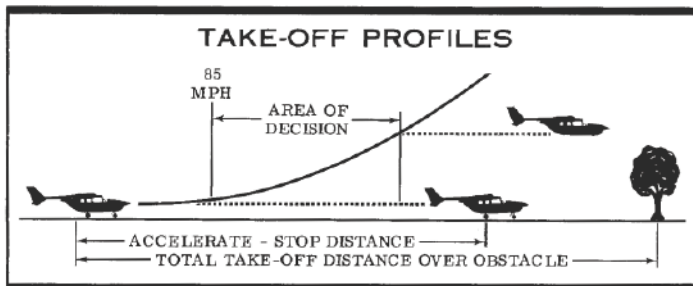

Figure 3-1.
of decision" in a few seconds. However, to assure an intelligent decision in this type of emergency, the field length, obstruction height, field elevation, air temperature, headwind, and the gross weight must be considered. Speed is also considered since a continued take-off is not recommended with an engine failure occurring below the obstacle clearance speed for single-engine operation. Under gross weight conditions this speed is 90 MPH. At reduced weights, where greater climb performance is available and the aforementioned obstacle clearance speed is lowered, a decision to continue the take-off at speeds as low as 85 MPH is acceptable. The flight paths illustrated in Figure 3-1 indicate that the "area of decision" is bounded by: (1) the point at which 85 MPH is reached, and (2) the point where the obstruction altitude is reached. An engine failure in this area requires an immediate decision to either continue the take-off or abort it.